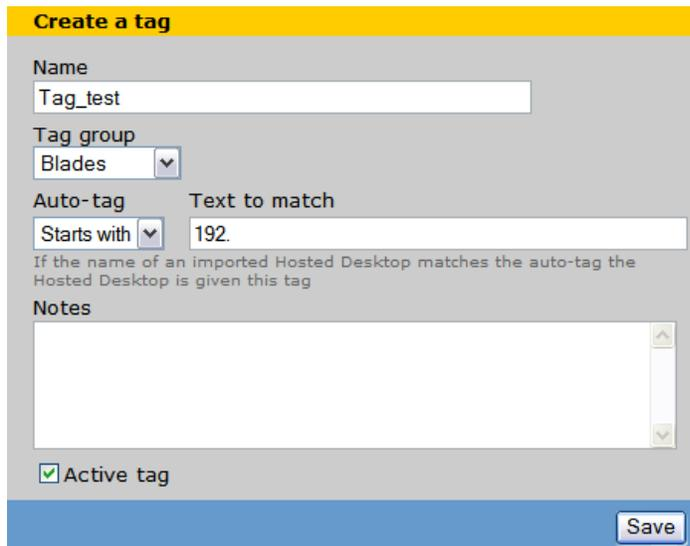

Figure 5-25 Creating a tag with the Leostream Hosted Desktop software
3. Click **Users** → **Tags** → **Create**. In the Create a tag dialog box, create a name for your tag and enter it in the Name field (Figure 5-25).